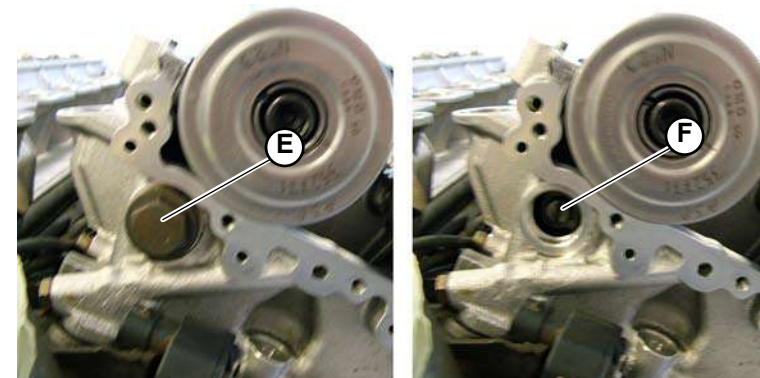

Fig.8
6. Remove the plug (**E-Fig.8**) and the locking screw (**F-Fig.8**) under the upper chain tightener shoe.